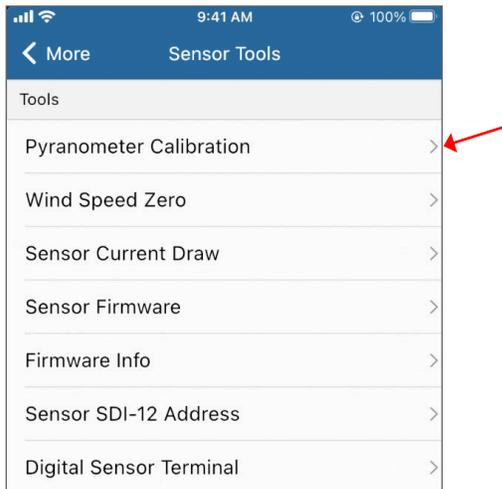

Figure 15 Sensor Tools screen
9. In the Sensor Tools screen, press on the **Pyranometer Calibration** button (Figure 15).